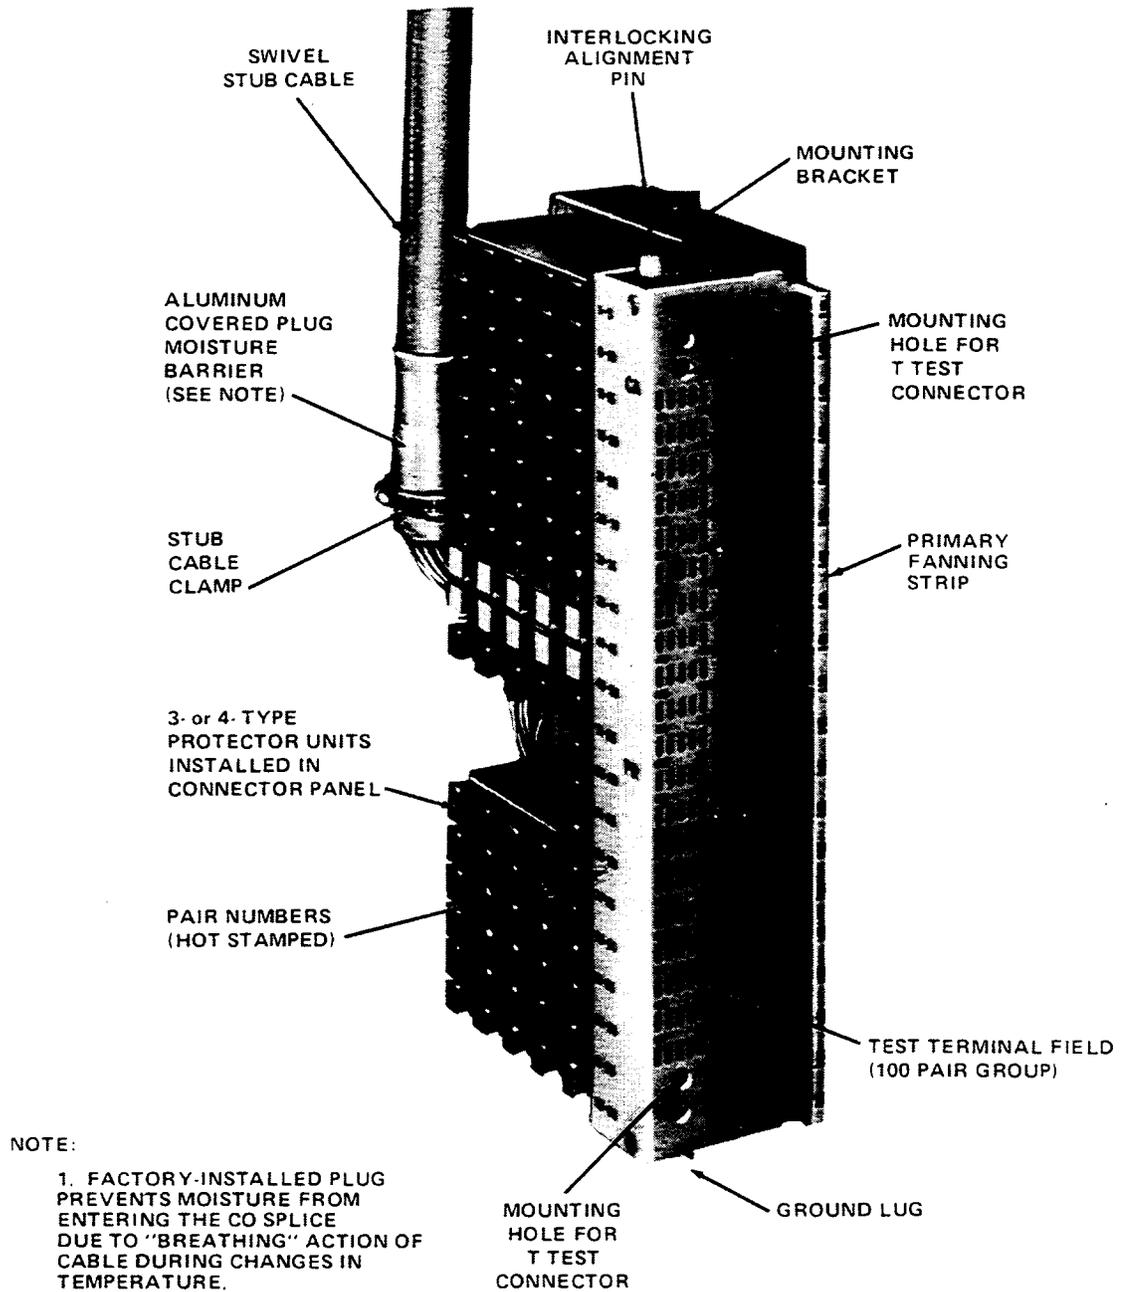

Figure 1. 311-Type Connector — Left Side View
**2.01** The 311/311L-type connector (Figures 1, 2, 3, 4, Table A and Table C), etc., measures 11 inches (27.94 cm) high by 3-1/4 inches (8.25 cm) wide (with 4-type protector units installed) and extends 6-1/2 inches (16.51 cm) from the vertical frame mounting bar at a 12.5-degree angle. This angled mounting configuration provides "semi" front access to the plug-in protector field while maintaining the total front access to both the test and cross-connect fields. This facilitates testing, jumper terminating, and protector unit administration. The 311/311L series of connectors are offered for convenience and ease of installation. All 311-type connectors have the same basic features. The exposed wires in the UL Listed connectors are enclosed in a metal casing.